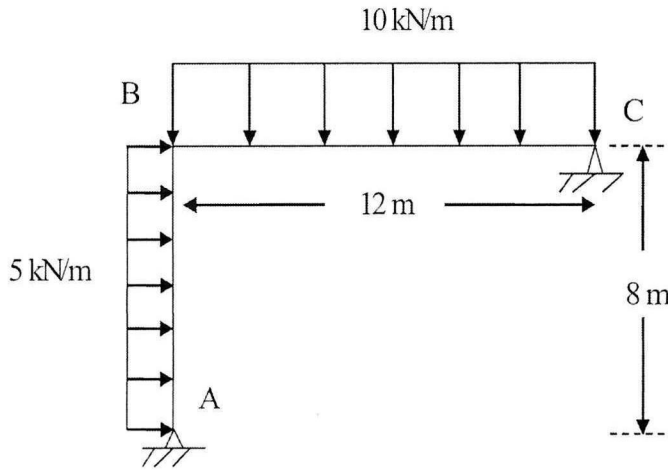

FIGURE Q1(b)
- Q1** (a) List **TWO (2)** advantages and **TWO (2)** disadvantages of indeterminate structure. (4 mark)
- (b) For the indeterminate frame in **Figure Q1(b)** ;